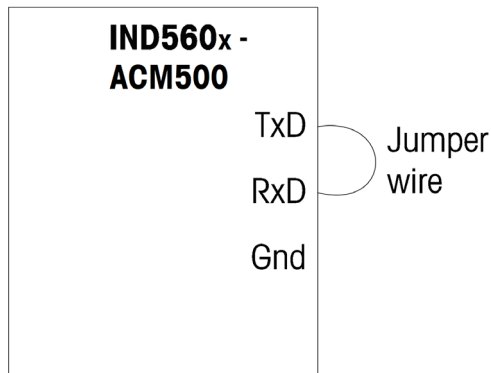

Figure 4-4: Jumper Wire Between Transmit and Receive Terminals on COM1
1. Place a jumper wire between the transmit and the receive terminals of the COM port to be tested as shown in Figure 4-4.